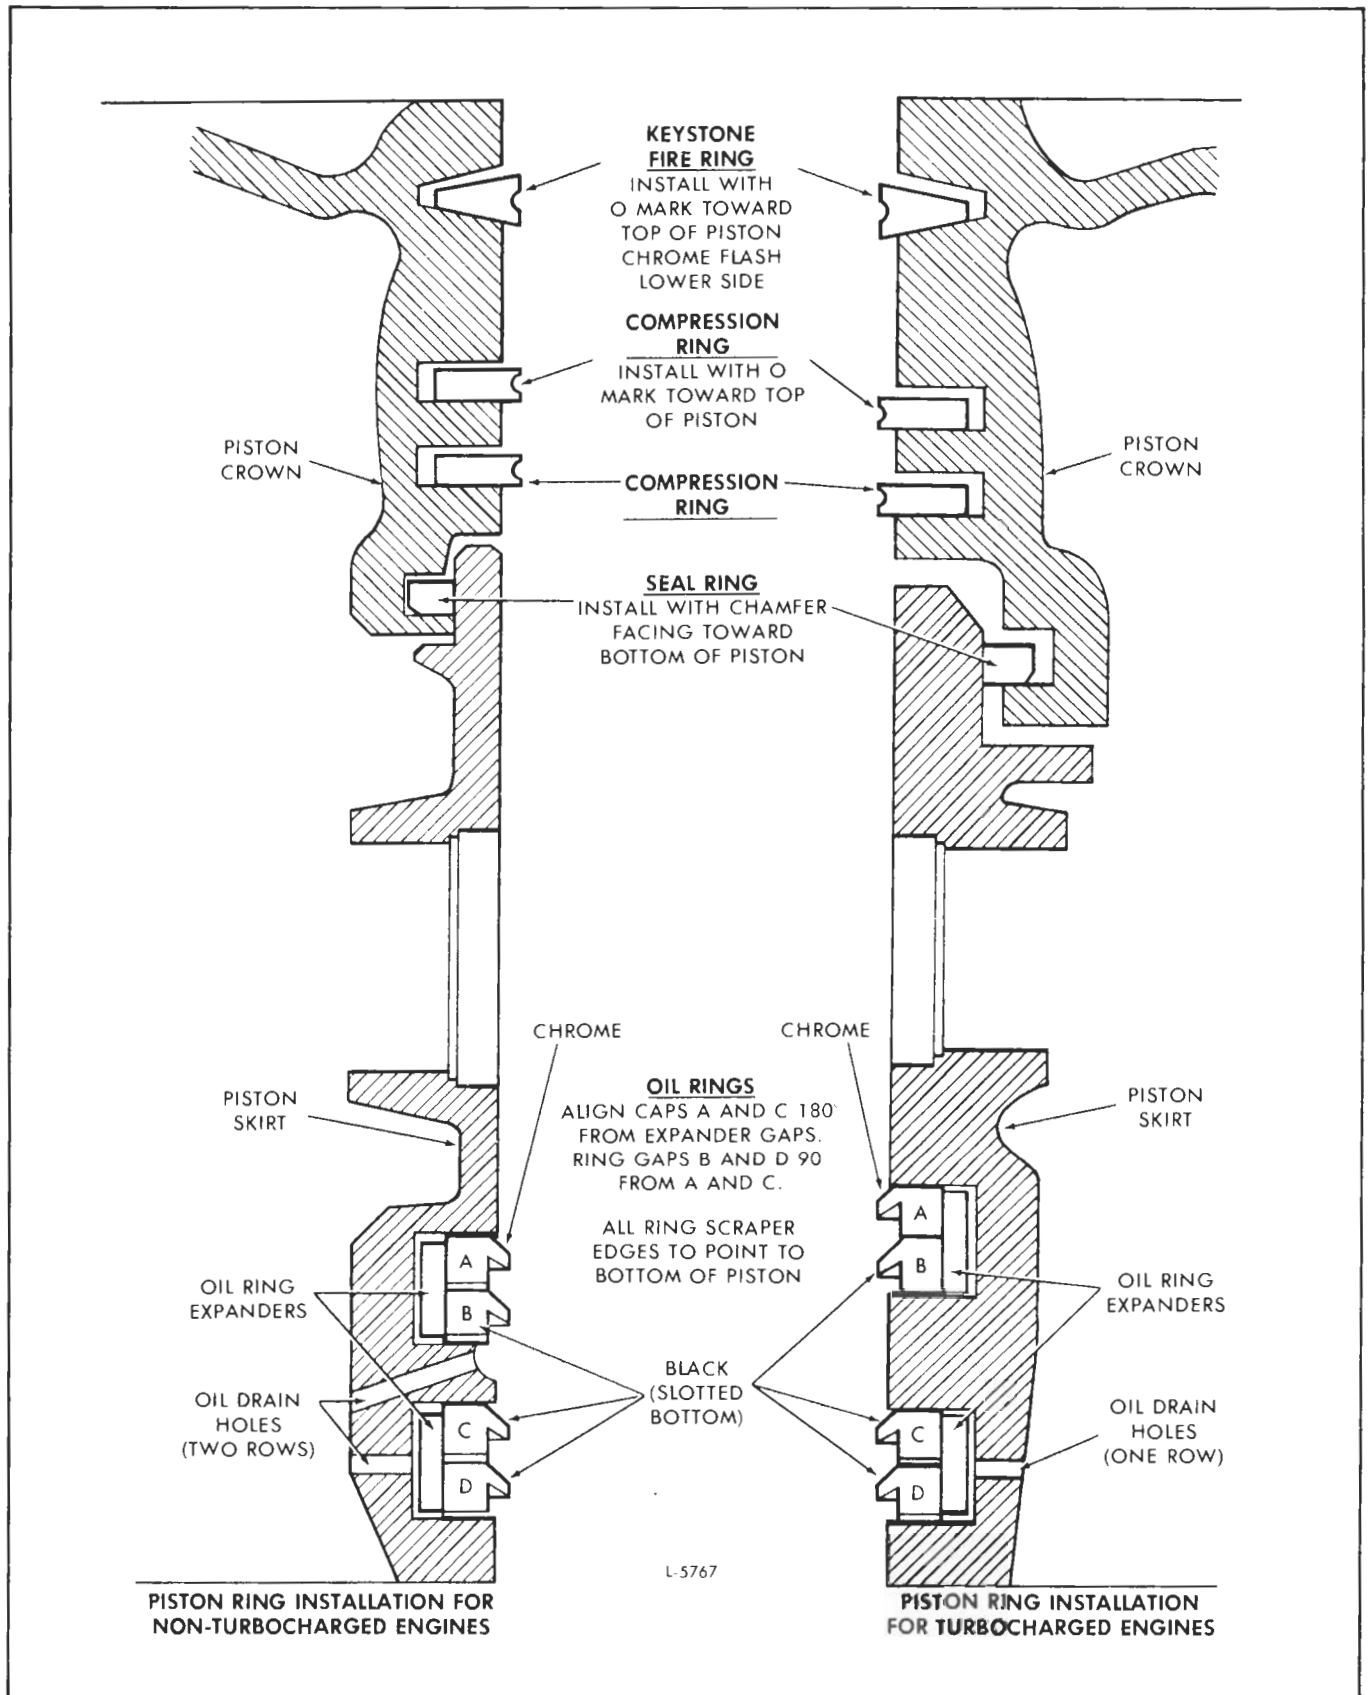

Fig. 16 - Piston Ring Installation Instructions
The current piston skirt used in turbocharged engines has only one row of oil drain holes (Fig. 16). The piston skirt with two rows of oil drain holes is used in non-turbocharged engines. However, the two types of piston skirts can be mixed in early turbocharged engines.
Refer to Fig. 16 for the type and location and install the oil control rings as follows:
2. Install the oil control rings by hand. Start with the upper half of the top oil ring and align the gaps as indicated in Fig. 16.